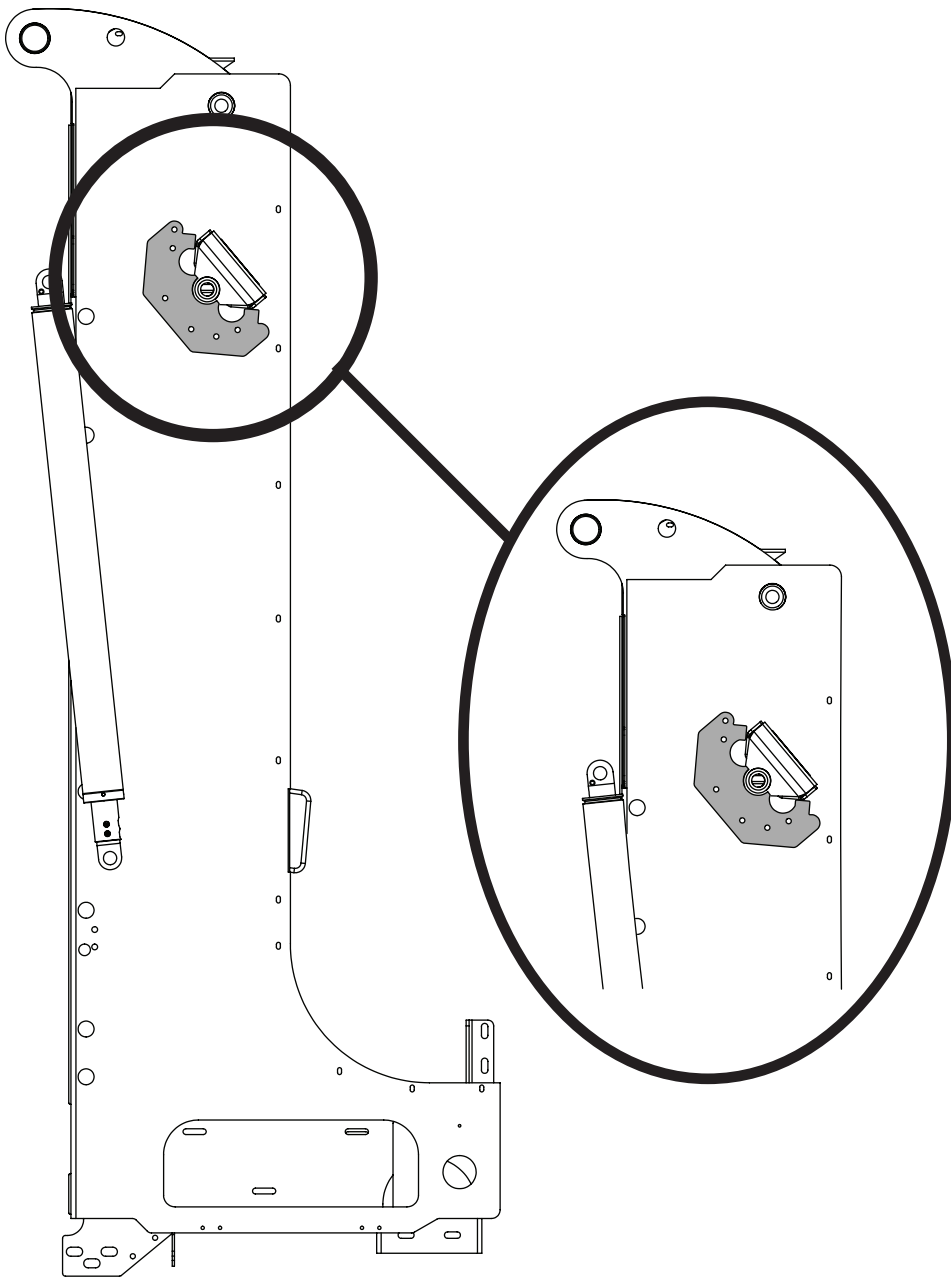

Figure 7
2. Slide the street side drill template or the curb side drill template over the inside mount bushing and mark the six (6) bolt centers or drill 3/16" pilot holes (if template has the 3/16" drill bushings) (Figure 7).